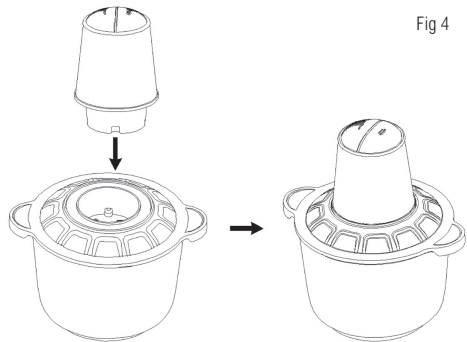

Fig 4
- d) Put the motor unit on the chopper lid, the blade unit handle is aligning with the middle hole of main unit.(Fig 4)